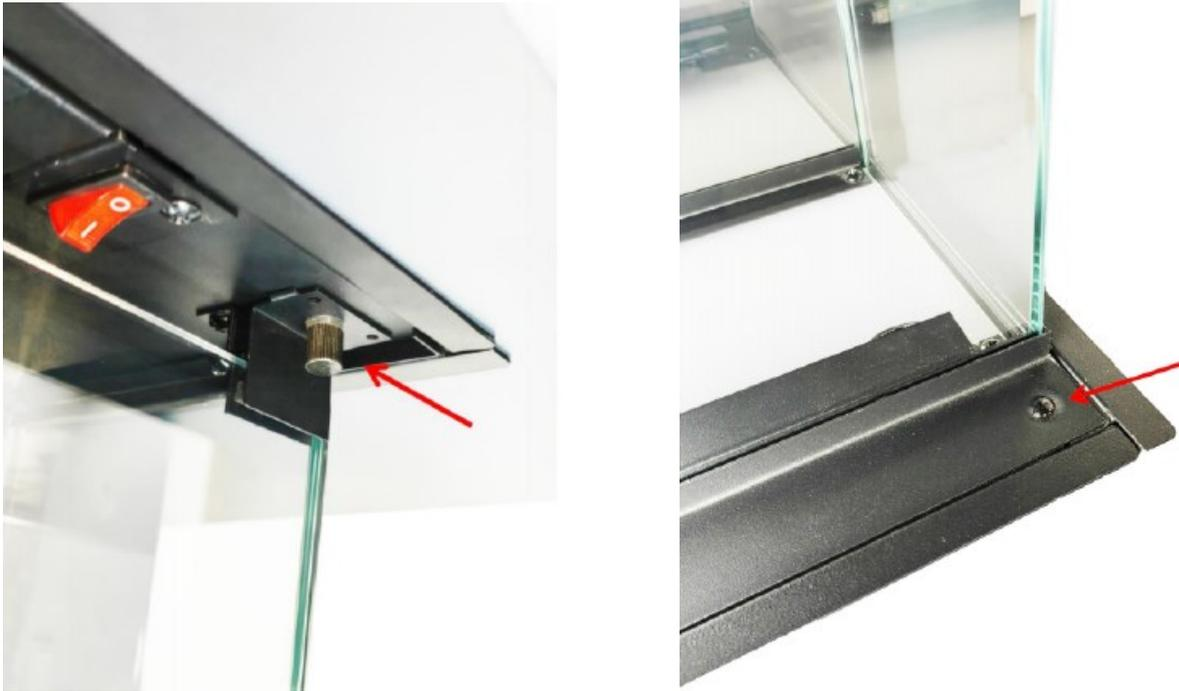

Figure 4.1 - Glass Retaining Brackets and Clips
2. With one hand on the glass front to prevent it from falling, remove the screws and brackets from the top right and left of the glass. Save these components. See Figure 4.1.
3. Remove the two screws securing the bottom glass trim / retainer. See Figure 4.1.